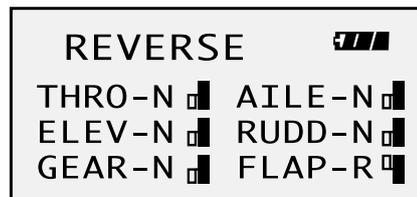

Fig. 15
3. Exit the "Flap" menu » scroll » enter "Setup list". Scroll and enter "Reverse". You will now need to reverse the "Flap" channel. See [Fig. 15].